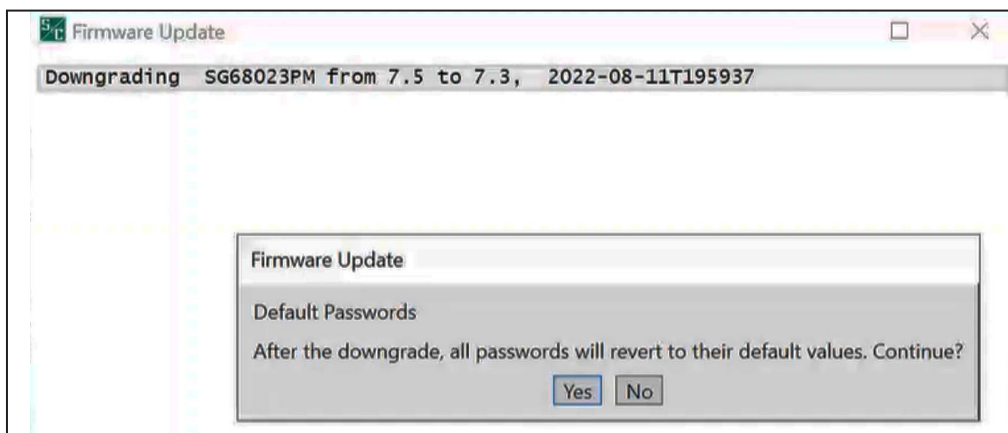

Figure 36. The Default Password downgrade message.
**STEP 16.** *When downgrading from a software version of 7.3.100 or later to a software release earlier than 7.3.100:* A message appears about the passwords being reverted to defaults during the downgrade process. Click on the **Yes** button to proceed with the downgrade. Selecting “No” will stop the downgrade process. See Figure 36.